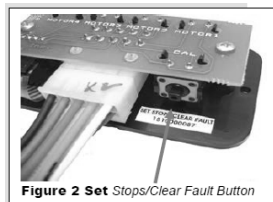

Figure 2 Set Stops/Clear Fault Button
- **MAJOR** faults must be cleared by pushing and releasing the **SET STOPS/CLEAR FAULTS** button located on the back of the wall touchpad. (Fig 2)
3. Press and hold the SET STOPS/CLEAR FAULTS button on the back of the touchpad for five (5) seconds (Fig 2). Both RED & GREEN LEDs will be on solid while pressing this button. After 5 seconds, the GREEN LED will begin flashing and the RED LED will remain solid on.